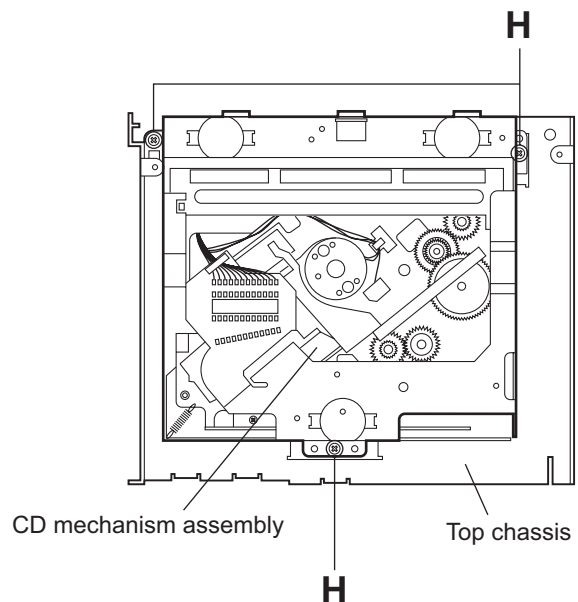

Fig.8
3.1.7 Removing the CD mechanism assembly (See Fig.8)